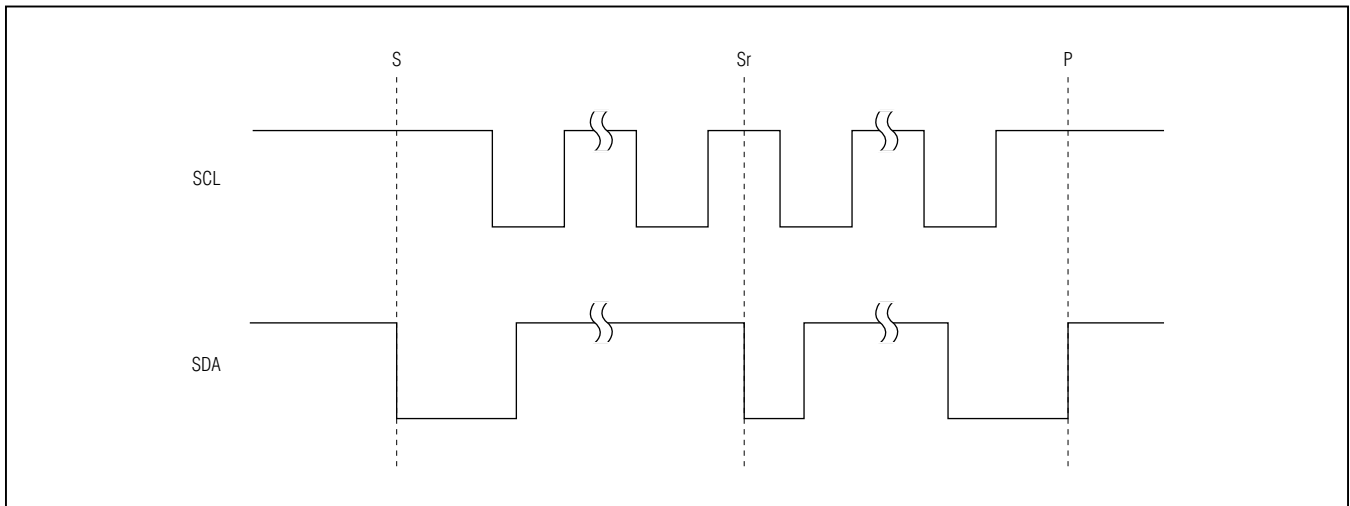

Figure 7. I²C START, STOP, and Repeated START Conditions
When writing to the MAX14640/MAX14651 using I²C, the master sends a START condition (S) followed by the MAX14640/MAX14651 I²C address. After the address, the master sends the register address of the register that is to be programmed. The master then ends communication by issuing a STOP condition (P) to relinquish control of the bus, or a Repeated START condition (Sr) to communicate to another I²C slave. See Figure 7.